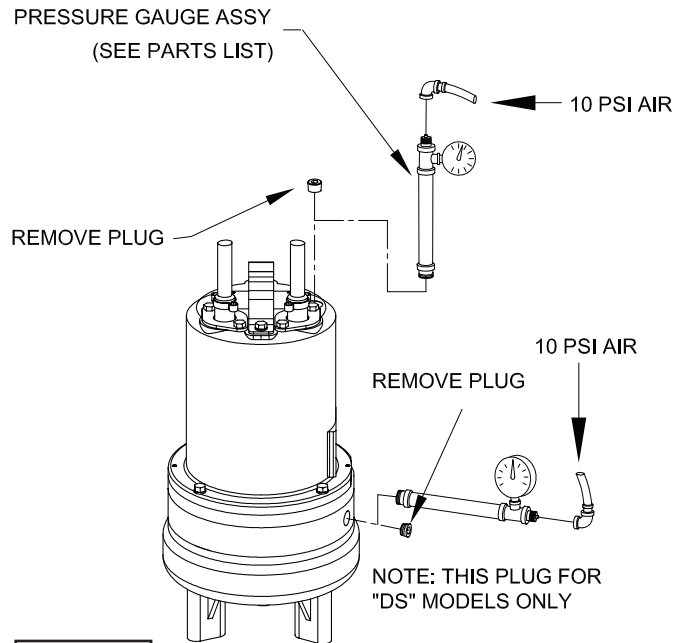

FIGURE 2
Pumps that have been disassembled, Motor Housing - If the pump has been disassembled, the oil should be drained before a pressure test, as described in section F-1.1. Remove pipe plug (39) from motor housing (6). Apply pipe sealant to pressure gauge assembly and tighten into hole (See Figure 2). Pressurize motor housing to 10 P.S.I. Use soap solution around the sealed areas and inspect joints for "air bubbles".
The pressure test may be done with the oil at its normal level. Remove pipe plug (39) from motor housing (6). Apply pipe sealant to pressure gauge assembly and tighten into hole (See Figure 2). Pressurize motor housing to 10 P.S.I. Use soap solution around the sealed areas above the oil level and inspect joints for "air bubbles". For sealed areas below the oil level, leaks will seep oil. If, after five minutes, the pressure is still holding constant, and no "bubbles"/oil seepage is observed, slowly bleed the pressure and remove the gauge assembly. If the pressure does not hold, then the leak must be located and repaired.